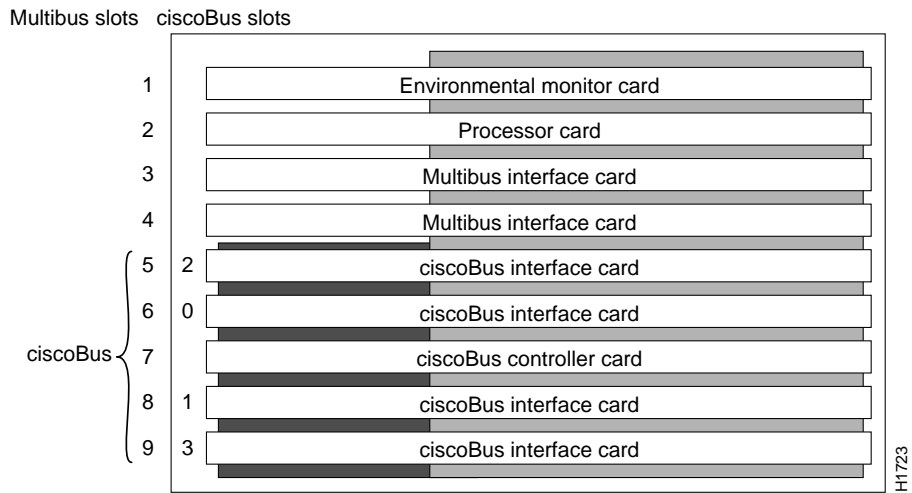

Figure 2 Router Card Cage—Front View
The chassis card cage (see Figure 2) has nine Multibus slots and five ciscoBus slots. (The five ciscoBus slots can accept Multibus cards if ciscoBus cards are not desired.) Because the chassis requires the CSC-ENVM card and a processor card at a minimum, seven Multibus slots are available. If ciscoBus cards are used, the center ciscoBus slot (slot 7 in Figure 2) is used for the CSC-CCTL card, leaving four slots available for ciscoBus interface cards.
The system card cage, shown in Figure 2, has nine slots, five of which are designated ciscoBus slots. The center ciscoBus slot is reserved for the ciscoBus controller card, leaving four ciscoBus slots available for ciscoBus interface cards.
- Step 4** Insert the CSC-CCTL into the middle ciscoBus slot (the seventh slot from the top). See Figure 2 for an illustration of slot placement. The fit will be snug.